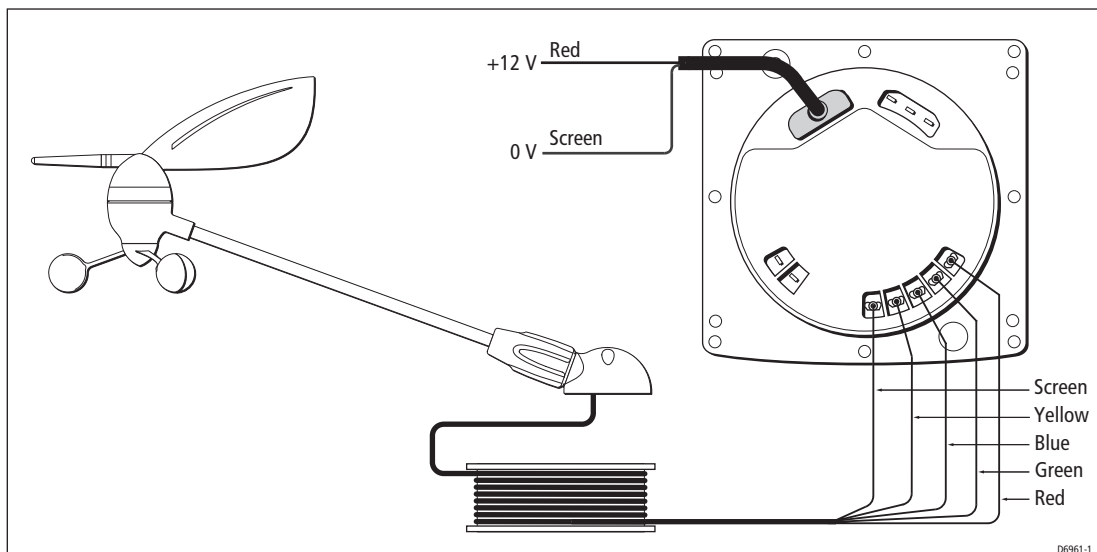

Figure 5: Test connections
1. Connect the wind vane to a serviceable ST60 Wind instrument as in *Figure 5*.